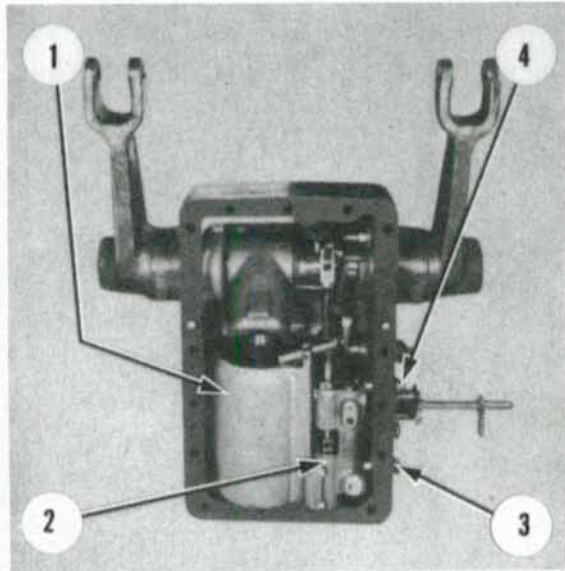

Fig. 286—Bottom view of lift cover assembly.
**208. OVERHAUL CONTROL VALVE.** With lift cover removed as outlined in paragraph 207, remove control valve assembly (2—Fig. 286) as follows: Remove oil pressure connecting sleeve (3) and pilot pressure tube connector sleeve (4) from lift cover. Remove four cap screws retaining lift cylinder to cover and remove cylinder and control valve as an assembly. Unbolt and remove control valve block from lift cylinder.